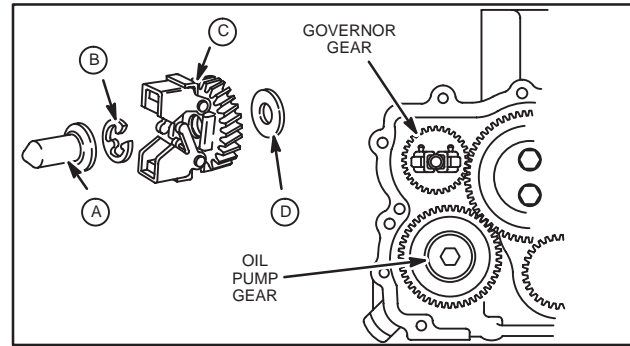

Fig. 5 – Removing Governor Gear
5. Remove governor gear, Fig. 5.